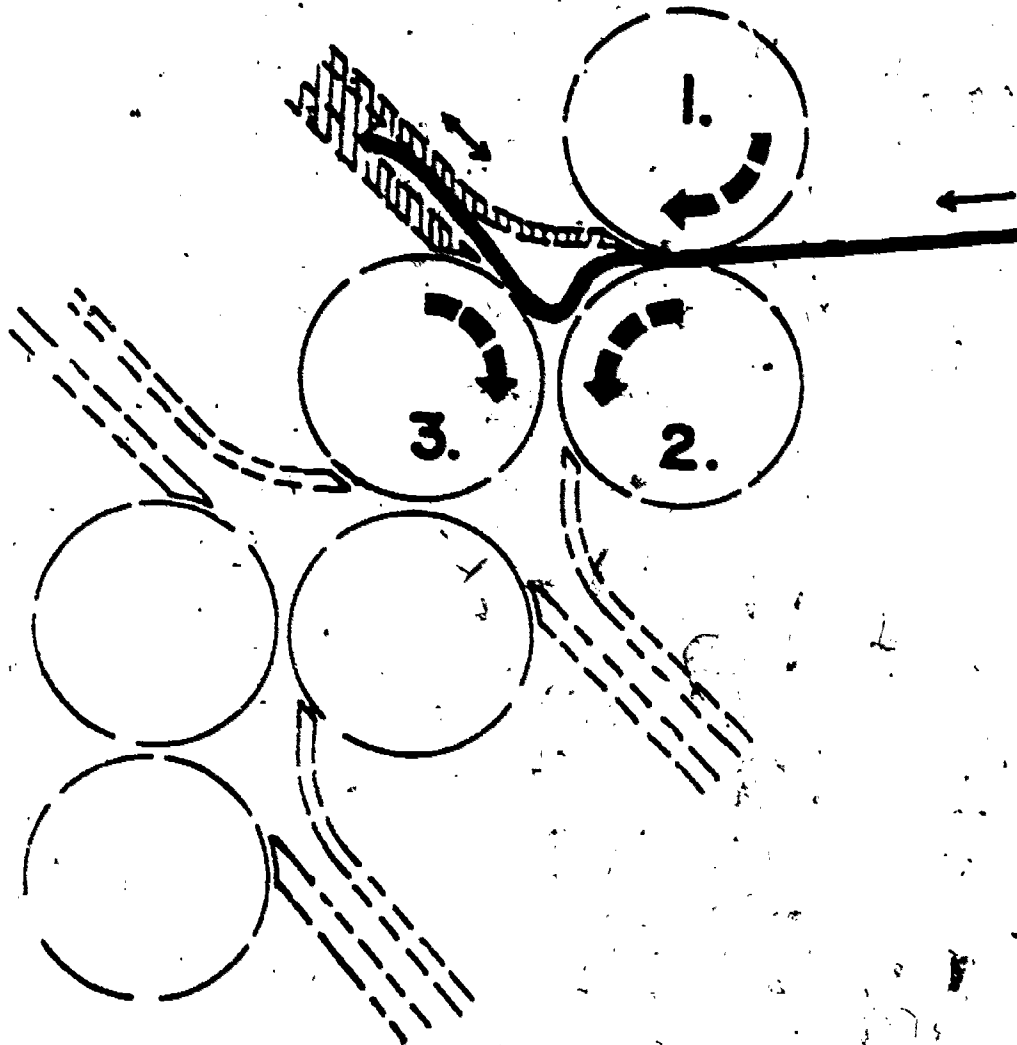

FIGURE 2. FOLDING PROCEDURE STEP 2
b. Step 2. The leading edge of the sheet strikes the fold plate gauge, which has been preset by the operator to fold size requirements. The sheet's forward movement, having been stopped by the fold plate gauge, causes the sheet to buckle and be drawn in between the Number 2 and 3 rollers which fold the sheet at the required first fold line. (In a right angle section the sheet, having been previously scored or perforated, will buckle and automatically fold on the score or perforation line.) It will be noted, in steps 1 and 2, that roller Number 1 acts only as a drive roller, while Number 2 roller which is a stationary (not tension) adjustable roller, operates with Number 1 as a driving roller and then with Number 3 as a fold roller for plate Number 1. (See Figure 2).